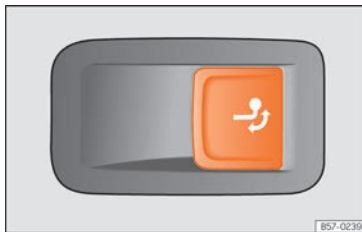

Fig. 214 On the right side of the luggage compartment: button for unlocking the tow hook.
- Pull the »» Fig. 214 button briefly. The tow hook unlocks electrically and automatically turns outwards. The button's control lamp flashes.
- Pull the »» Fig. 214 button briefly. The tow hook unlocks electrically.
- If the warning light on the button »» Fig. 214 → flashes, this means that the tow hook has not been attached properly or is damaged »» ⚠.
- If the warning lamp »» Fig. 214 → remains on with the rear lid open, the tow hook is correctly in place both when extracted and when covered.
- Never press the »» Fig. 214 button when there is a trailer hooked to the vehicle or when a carrier system or other accessories are mounted on the tow hook.